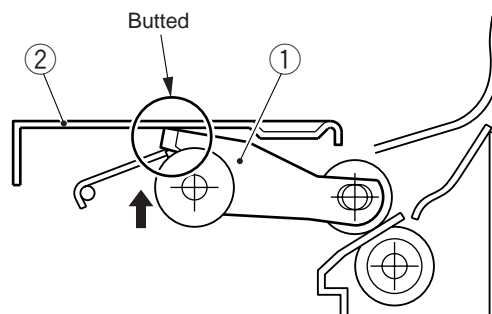

Figure 5-717
Install the solenoid so that the pick-up roller arm ① shown in Figure 5-717 butts against the upper stay ② when the plunger of the solenoid is pushed in.